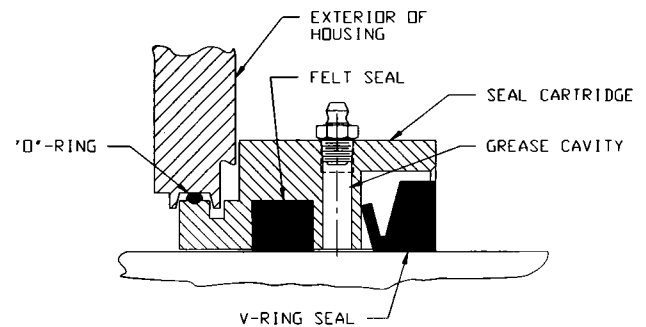

Figure 6
3. Slide one of the V-ring seals onto the shaft making sure lip is toward the housing. Install seal cartridge onto the shaft with relation to housing as shown on Figure 6.
5. Install second seal cartridges onto the shaft with relation to housing as shown on Figure 6.